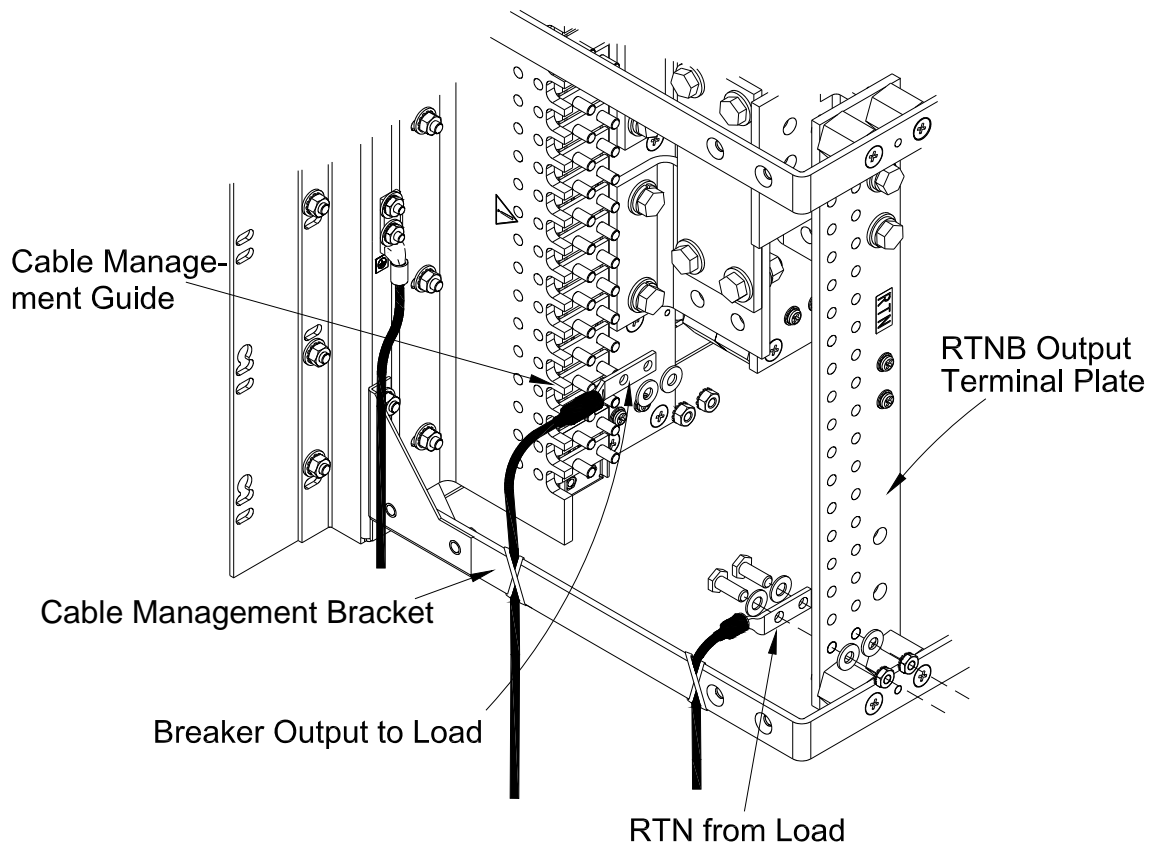

Figure 17 - Routing and Restraining Cables
3. Plan to route and restrain the cables along the outside of the cable management brackets, as shown in Figure 17.